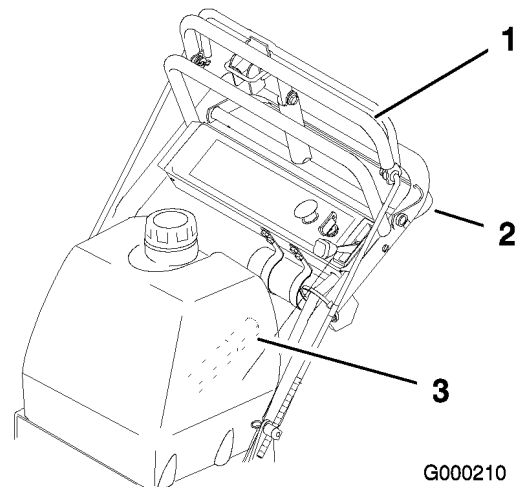
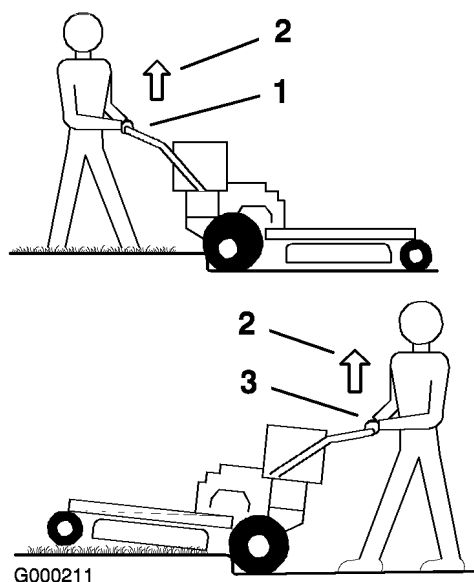

Figure 21
Figure 22
1. To go forward, move the shift lever to a forward gear (Figure 21).
3. Slowly press on the upper control bar to move forward (Figure 21).
To go straight, apply equal pressure to both ends of the upper control bar (Figure 21).
To turn, release pressure on the upper control bar side in the direction you want to turn (Figure 21).
3. Slowly squeeze the lower control bar and lower handle together to move rearward (Figure 21).
3. Drive machine until the castor wheels contact curb (Figure 22).
4. Lift the front of the machine by pushing down on the lower handle (Figure 22).
5. Drive the machine until drive wheels contact the curb (Figure 22).
6. Lower the front of the machine (Figure 22).
7. At the same time engage the lower control bar and lift up on the lower handle to drive over the curb (Figure 21 and Figure 22).
3. Drive the machine until drive wheels contact curb (Figure 22).
4. At the same time engage lower control bar and lift up on the lower handle (Figure 21 and Figure 22).